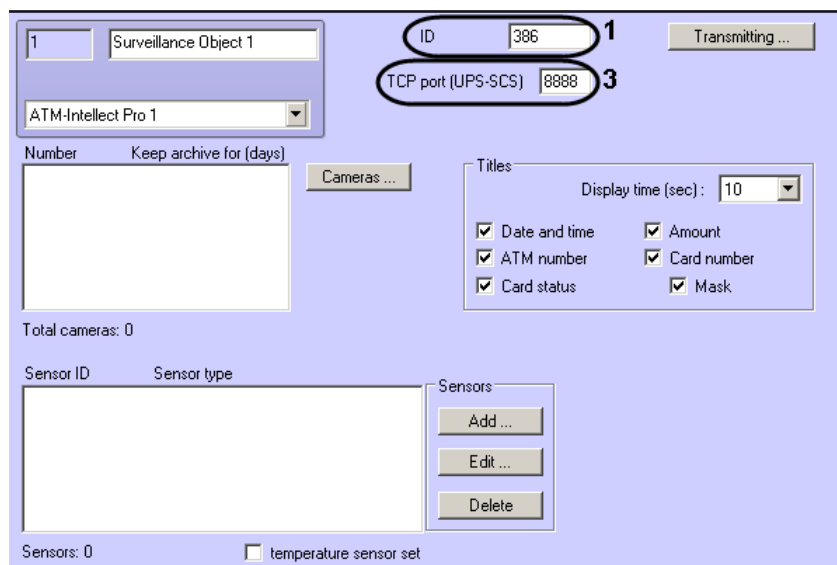

Fig. 13.4—9 ID and TCP port parameters on the setting panel of the ATM-Intellect Pro
2. In the **IP address** specify the IP address of the computer on which Intellect and ATM Intellect Pro are installed (Fig. 13.4—8, 2). If they are installed on the ATM's control computer, you can leave the default value unchanged (127.0.0.1).